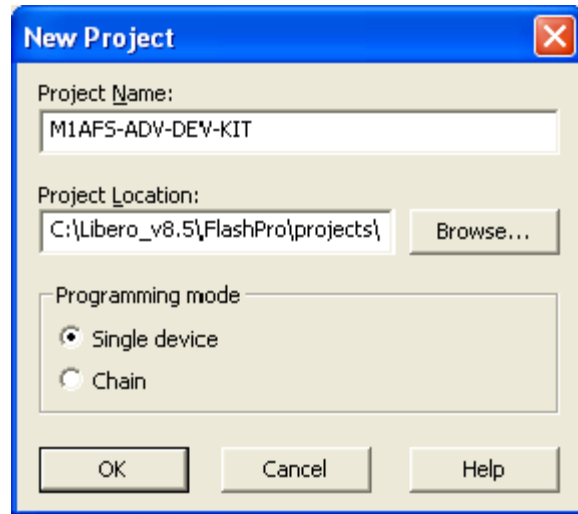

Figure C-3 · Select Single Device
3. Select the option **Single Device** when choosing the programming mode (Figure C-3).